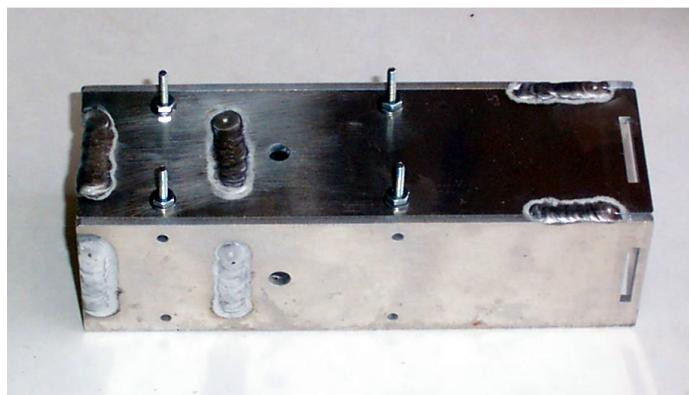

Figure 4: Motor housing mounting bolts
2. Mount the bearing and the lock collar as shown in Figure 4. The setscrew in the collar should be replaced with the larger setscrew provided and go into the hole in the shaft. The setscrew will be tightened onto the flat spot on the motor drive shaft when it is installed later. (both the double row and single row wheels are set up the same way)
1. Mount 4 #4 machine screws through the base of the motor mount and fasten with a nut as shown in Figure 4.